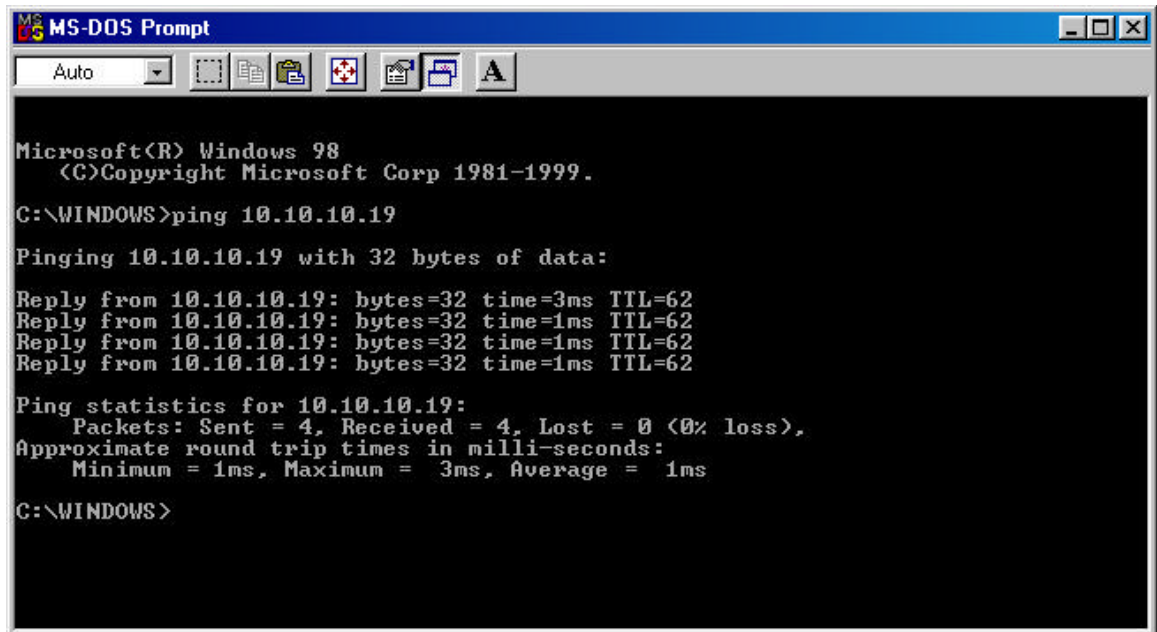

Figure 3-17. IDU Ping Example
3. If the ping is successful, the following message will appear: Reply from xxx.xxx.xxx.xxx: bytes=a. time=b ms, TTL=c. Refer to Figure 3-17 for an example of a ping. A successful ping implies that the IDU and the PC can communicate with one another across an Ethernet connection.